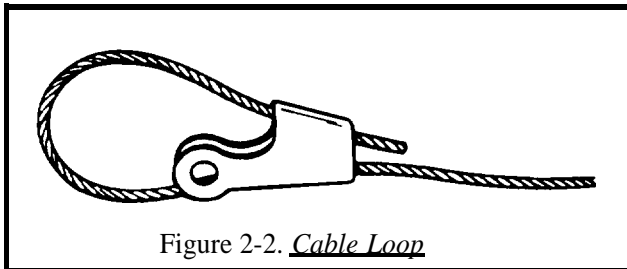

Figure 2-2. *Cable Loop*
1. Lead cable through socket and form a large loop. Draw cable end back through socket approximately 2 in. (50.8 mm) (Figure 2-2).